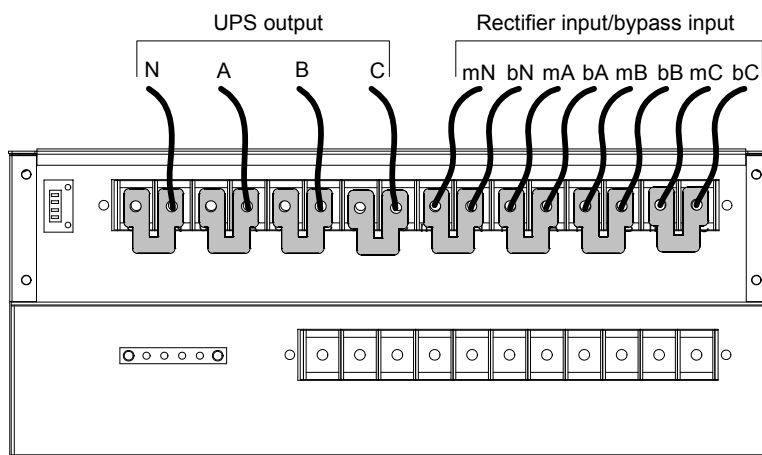

Figure 3-5 Power cable connection of common input
1) As shown in Figure 3-5, ensure that the four shorting copper bars between the rectifier input terminals (mA-mB-mC-mN) of UPS and the bypass terminal terminals (bA-bB-bC-bN) are connected correspondingly. The I/O cable of users should be respectively connected to the corresponding terminals. Use screws to fasten them and ensure the correct phase rotation.